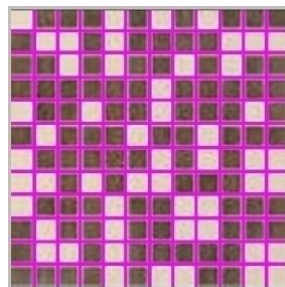

Fig. 222 – grouts drawn in a program for processing pictures
- it should be done in a following way: in places, when grouts are visible on the picture apply lines of the thickness the same as the thickness of the grout in reality (**1 pixel = 1 mm**), in the colour of a RGB sign code: **R = 255, G = 0, B = 255** (magenta) (Fig. 222);